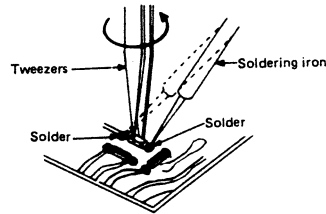

Fig. 16
2. Touch the soldering iron to the end of the chip as shown in Fig. 16, then turn the tweezers in the direction of the arrow.